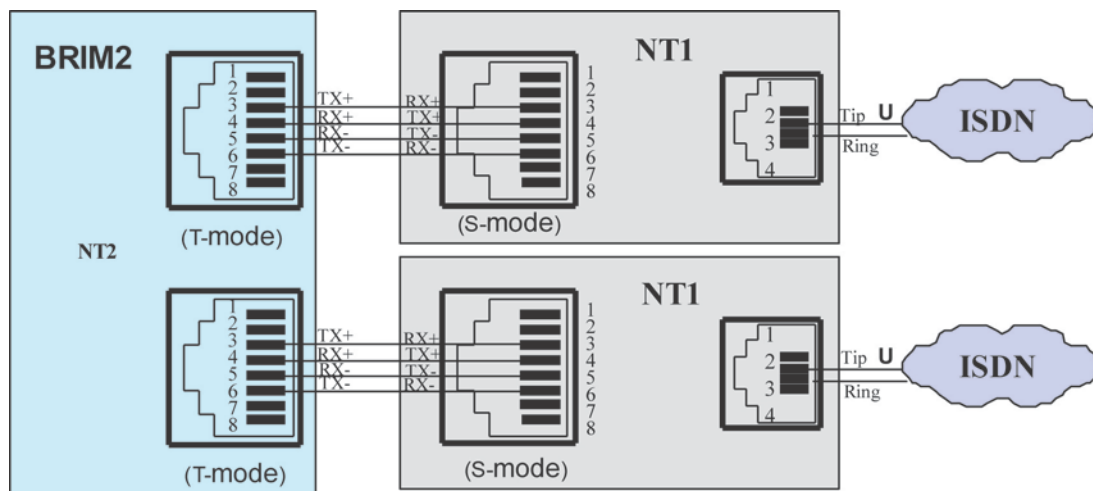

Figure 4.5.12-1 BRIM2 BRI Line Connector Configuration
On the rear are two (2) RJ-45 connectors terminated to the BRI Line interface circuits. These connectors should be wired to the telephone company termination point (“T” Mode). The connector pin assignments for the RJ-45 type jacks on the BRIM2 are shown in Figure 4.5.12-1.